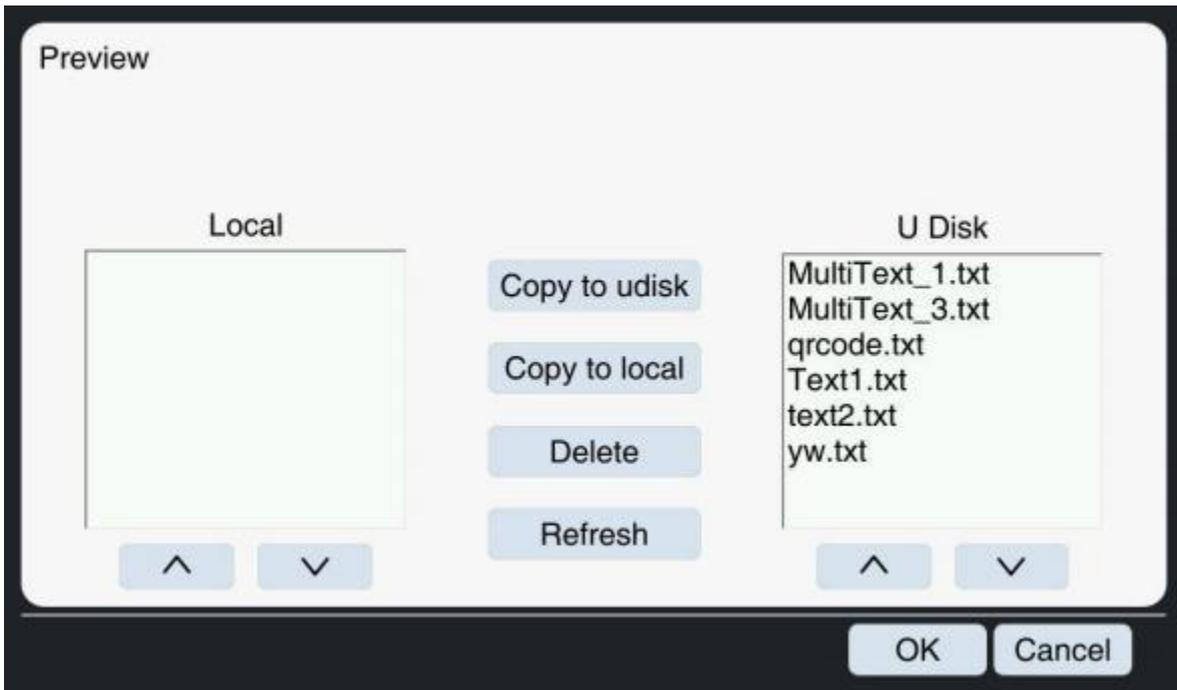

Figure 5-13 File Preview Interface
3.When you select the U disk to print TXT text, click the **File** button, then click the **File Loading** button, and then the system will enter the preview interface. As shown in Figures 5-13. Selecting the file to be printed, and clicking the **OK** button.